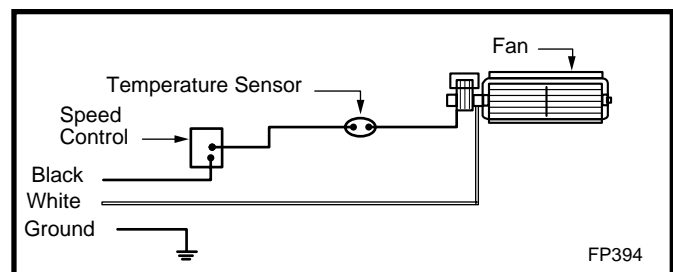

Fig. 4 Wiring diagram.
**Should this fan require servicing, the power supply must be disconnected. For rewiring of any replacement components refer to Figure 4.**